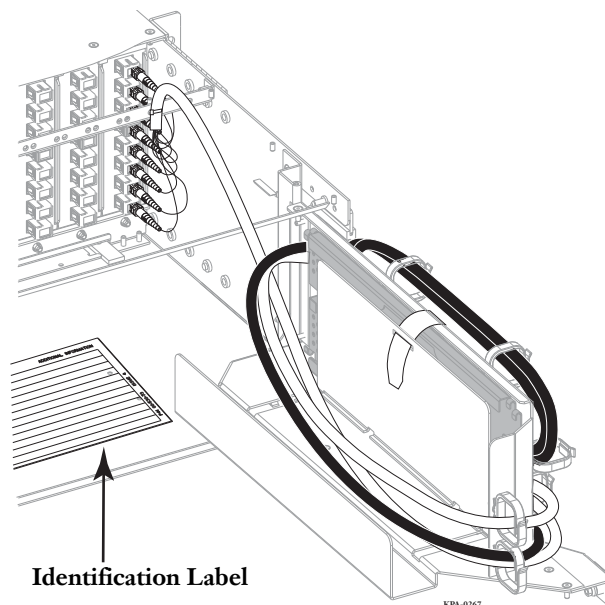

Figure 10 — Secure Splice Tray
**Step 4:** Once splicing is complete, return the splice tray to the tray holder. Store buffer tube and pigtail slack in the clips again as shown in Figure 10.
**Step 1:** Attach the identification label to the inside floor of the housing. Identify each fiber as needed on the identification label (Figure 10). Accurate recordkeeping is imperative to an organized installation.